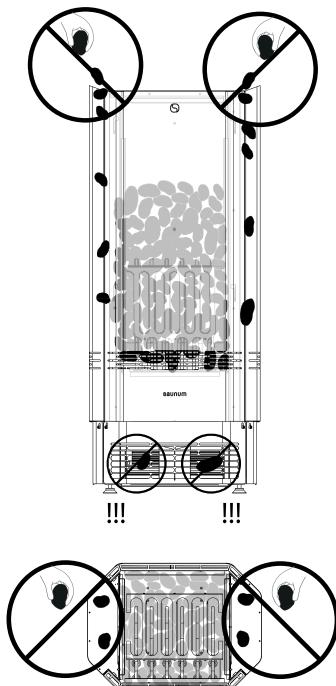

Figure 10
**Do not drop any stone inside of the both side flue (Figure 10)!!!**